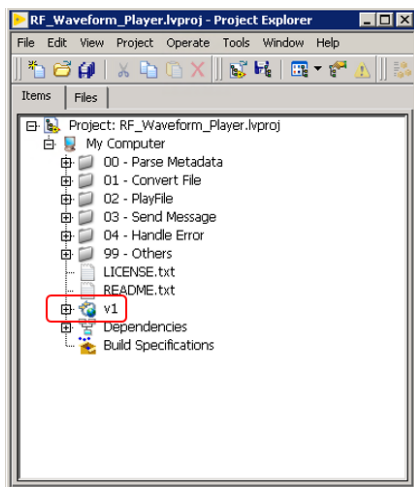
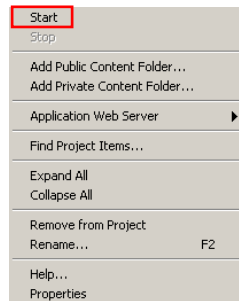

Figure 2a: LabVIEW project window
Figure 2b: Start up LabVIEW player
- The LabVIEW player will appear as shown in Figure 2a.
- Start the LabVIEW player by right clicking on the "v1" as shown in Figure 2a. Select "Start" to initiate the session (Figure 2b). A Debug web service window will appear as shown in Figure 3. Click "OK".